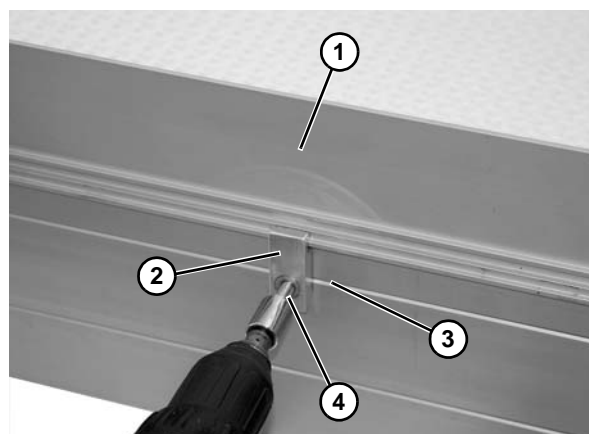

Figure 25
- Locate guide (Figure 25, item 1) and retaining clip (Figure 25, item 2) and hold to side rail. Hole should line up with notch (Figure 25, item 3) in side rail.
- With a cordless drill or equivalent install self-drilling screw (Figure 25, item 4). Use high speed setting to drill through side wall. Once the tap portion is started switch drill power to a lower speed. Do not fully tighten with drill.